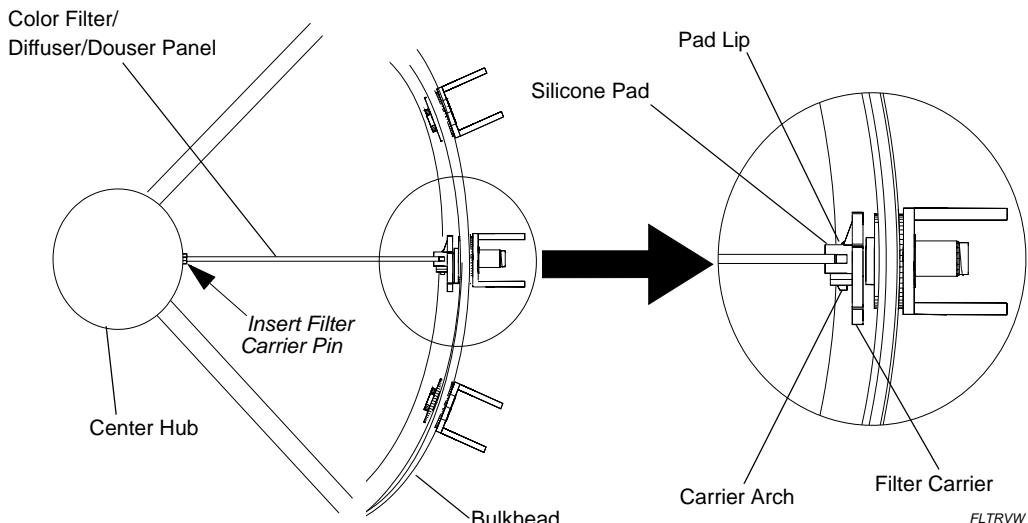

Figure 2-20: Color Filter and Diffuser/Douser Panel Removal and Replacement
Step 6. Remove filter or panel: **Figure 2-20.**
- Step 7. Insert filter carrier pin (of replacement filter or panel) into center hub. **Figure 2-20.**